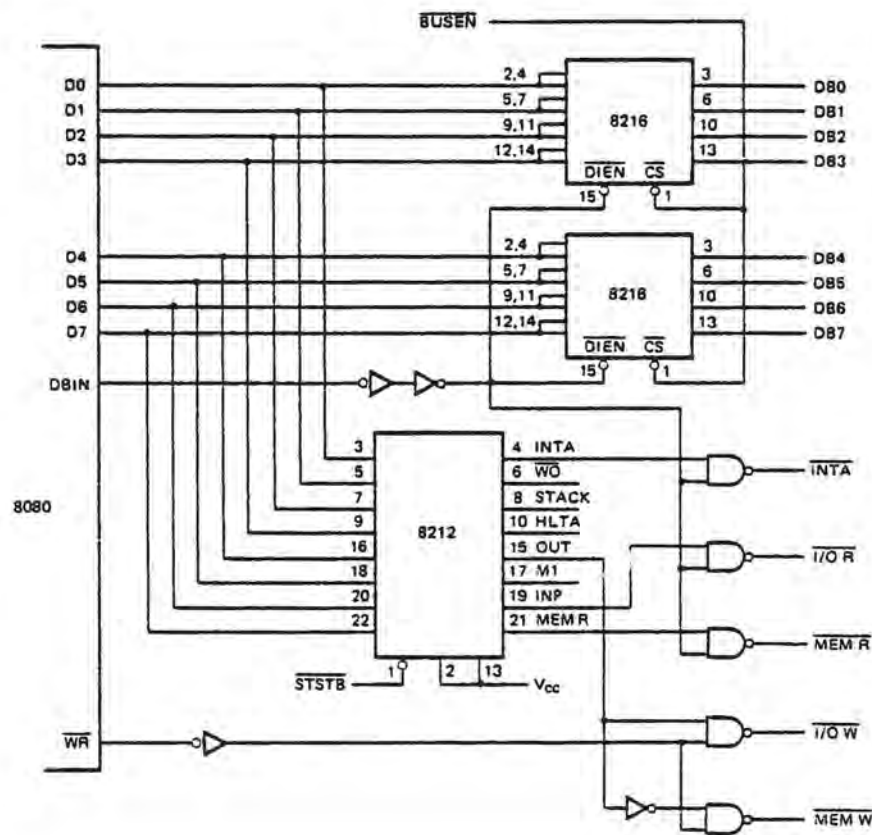

Figure 3-5. 8080 System Control
A pair of 8216's are connected directly to the 8080 Data Bus (D7-D0) as shown in figure 3-5. Note that the DBIN signal from the 8080 is connected to the direction control input ( $\overline{DIEN}$ ) so the correct flow of data on the bus is maintained. The chip select ( $\overline{CS}$ ) of the 8216 is connected to BUS ENABLE ( $\overline{BUSEN}$ ) to allow for DMA activities by deselecting the Data Bus Buffer and forcing the outputs of the 8216's into their high impedance (3-state) mode. This allows other devices to gain access to the data bus (DMA).
As described previously, the 8080 issues Status information at the beginning of each Machine Cycle on its Data Bus to indicate what operation will take place during that cycle. A simple (8) bit latch, like an INTEL® 8212, connected directly to the 8080 Data Bus (D7-D0) as shown in figure 3-5 will store the